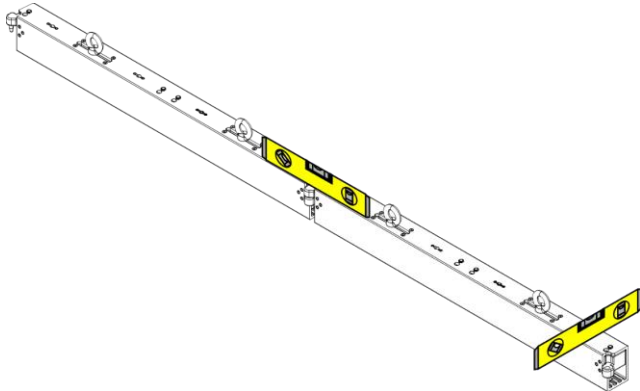

Fig. 20
- 03) Make sure that the devices are leveled in all directions, as shown in Fig. 20.